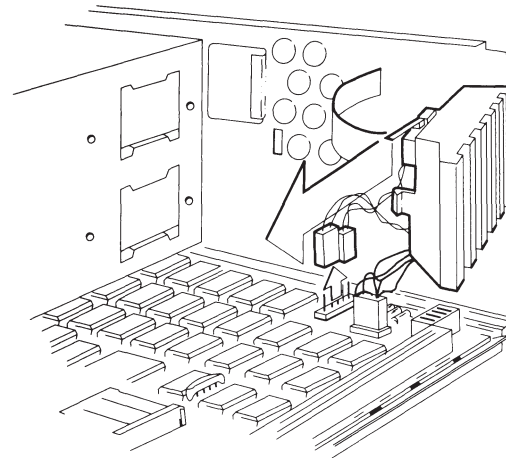

Figure 7-31. Removing the Speaker/Board Guide Assembly.
3. Remove the speaker/board guide assembly by pushing the plastic catch on the front of the chassis and swinging the assembly away from the chassis (Figure 7-31).